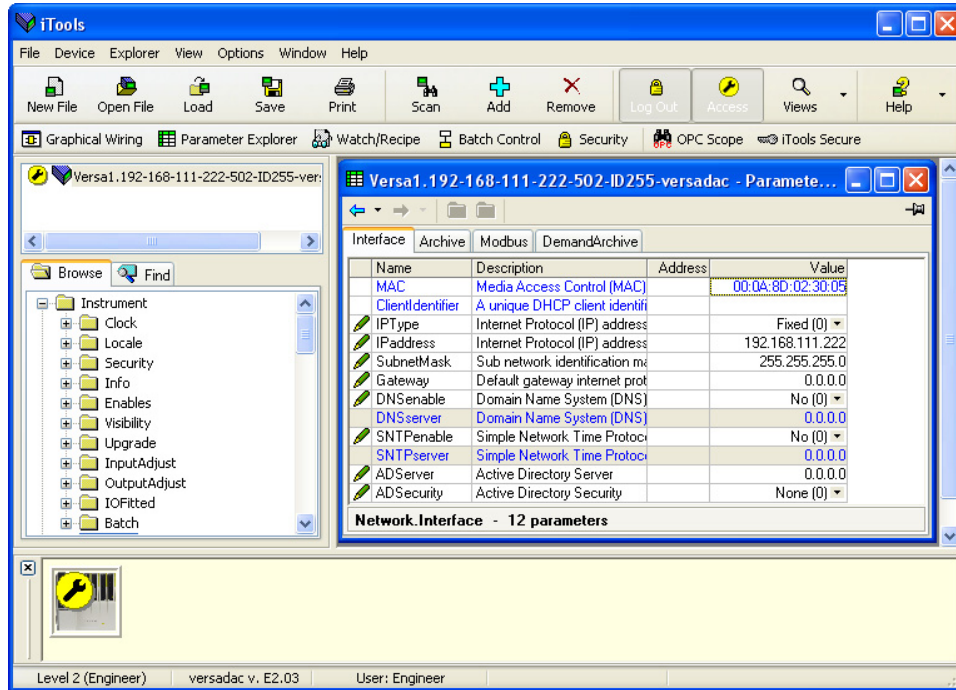

Figure 52 Parameter table example
In each case the function block parameters appear in the iTools window in tabular form, such as the example in Figure 52, below.
- Columns. The default explorer window (Figure 52) contains the columns 'Name', 'Description', 'Address' and 'Value'. As can be seen from Figure 54, the columns to be displayed can be selected, to a certain extent, using either the 'Explorer' menu or the context menu. 'Limits' have been enabled for the example above.